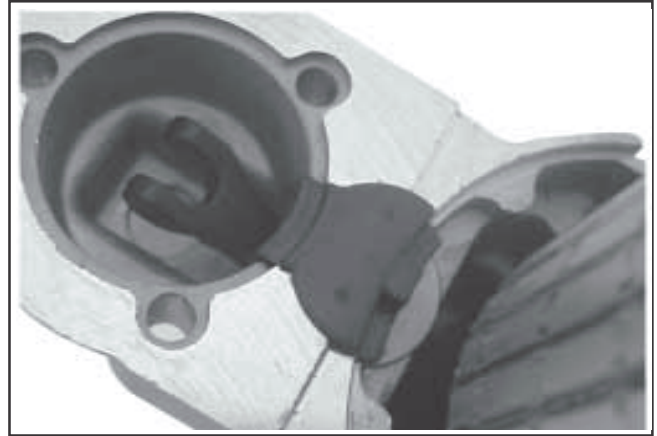

Figure 7-36. Installing Backup Washer and Grommet.
7. Install the backup washer, followed by the rubber grommet, into the matching recess of the drive end cap. The molded recesses in the grommet should be **out**, matching and aligned with those in the end cap. See Figure 7-36.